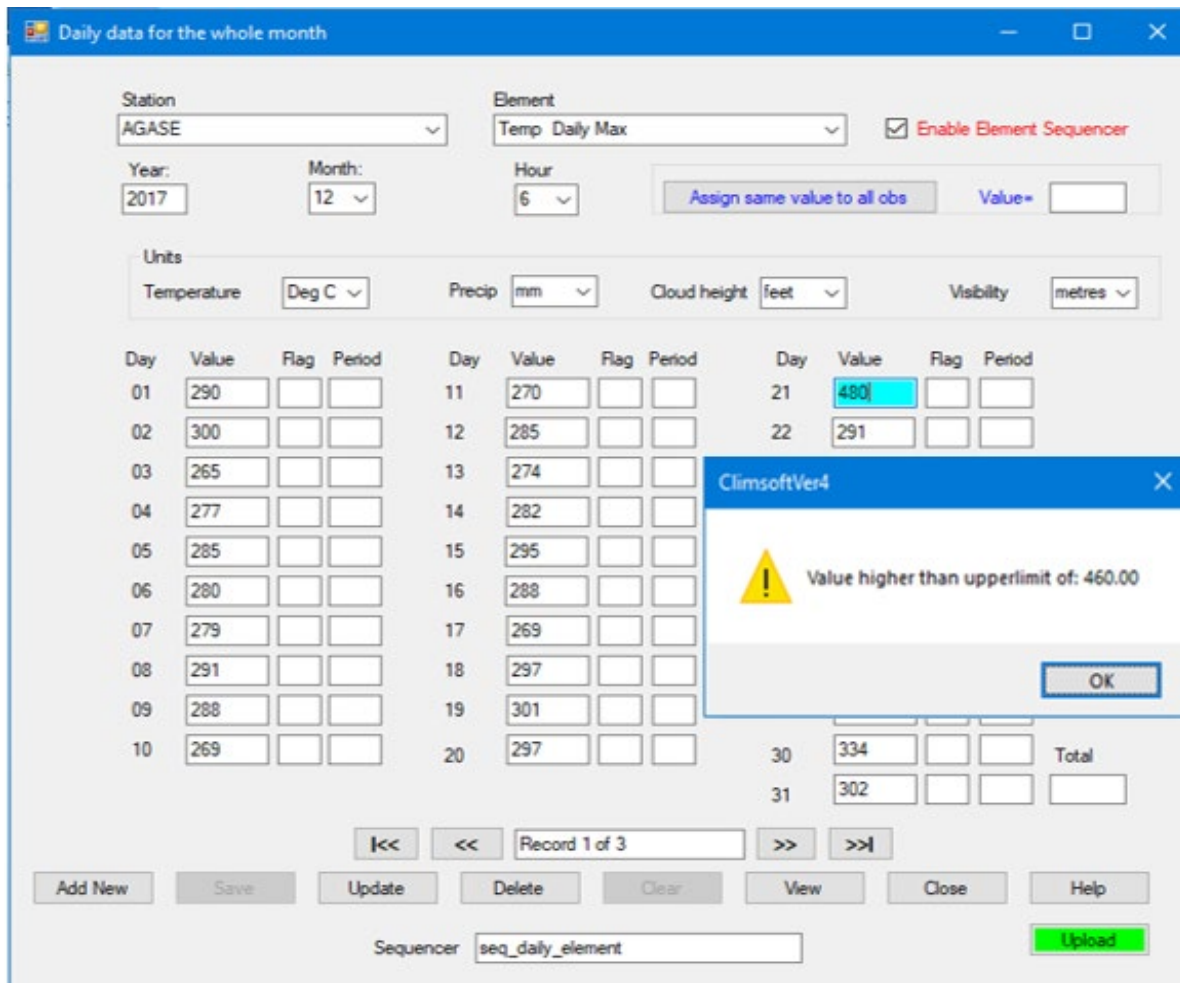

Figure 32: QC checks during key entry
- When the cursor leaves a particular text box or dropdown list after pressing the **“Enter”** key, quality control (QC) checks are carried out on the value that has just been entered. Figure 32 shows a QC message after entering a value that has failed the QC check for upper limits when entering daily data.
- All key-entry forms have a **“View”** button for viewing the data that has been entered in datasheet view, **Figure 32**. To facilitate locating a required record, the rows are in ascending order by station ID, element ID, and date/time attributes,